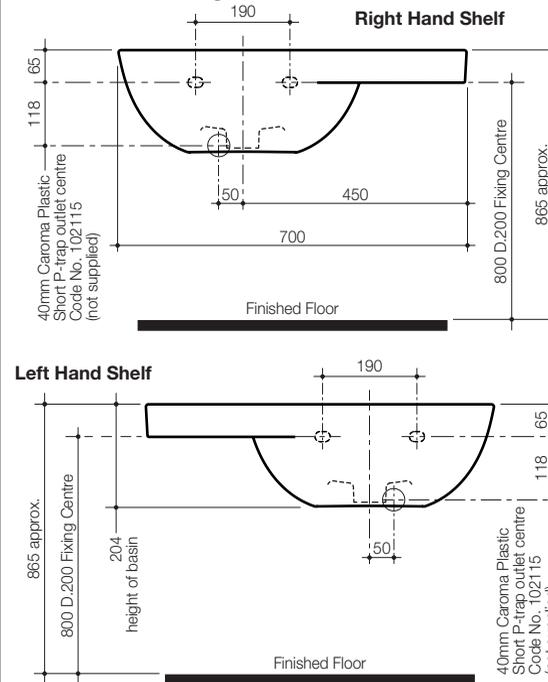

Fig. 1
For timber stud walls, noggins and studs must be positioned at a height to allow for the location of fasteners as detailed in Fig. 1.
- 1- Mark Fixing Screw hole position on finished wall at the recommended height as detailed in Fig. 1.